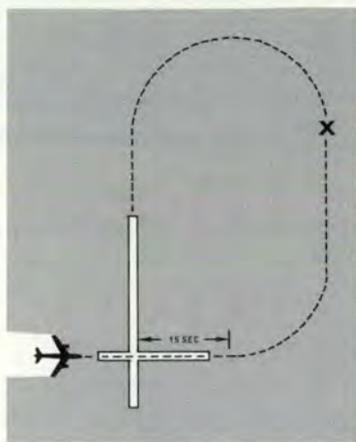

FIGURE 5
b. 90° MANEUVER. The second situation to consider is approaching the landing runway at approximately 90° as shown in Figure 5. Again, our problem is to displace ourselves far enough to allow for a normal base turn. Since our turn to a downwind heading will give us approximately half our required offset (180 degrees vs 90 degree turn), we have only to delay that turn to downwind until we have flown a sufficient distance to cover the other half. If we have a ground speed of 180 knots (3 miles per minute) and want a ¾ mile flyoff (half the 1.5 mile turn diameter), we could time for 15 seconds when overhead the runway, then start our turn to downwind. Different airspeeds and turn radii will require different flyoff times. You should determine one that will work for your aircraft. As with other techniques, be sure to consider the wind.